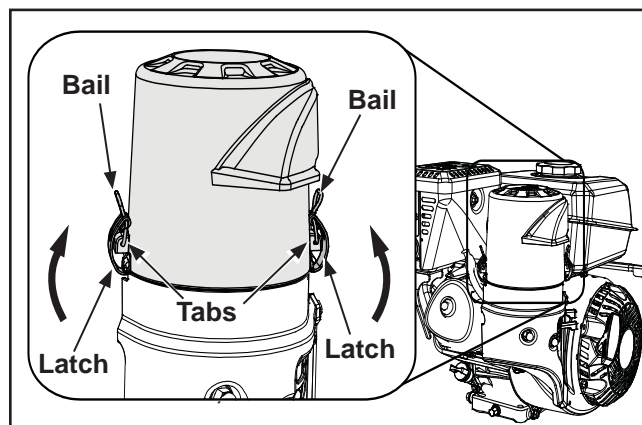

Figure 4-5. Air Cleaner Cover Installation.
7. Reinstall and secure the air cleaner cover. Align the air cleaner cover latches with the tabs on the base. Place the latches under the tabs and lift up on the bails. See Figure 4-5.
6. Reinstall and secure the air cleaner cover. Align the air cleaner cover latches with the tabs on the base. Place the latches under the tabs and lift up on the bails. See Figure 4-5.